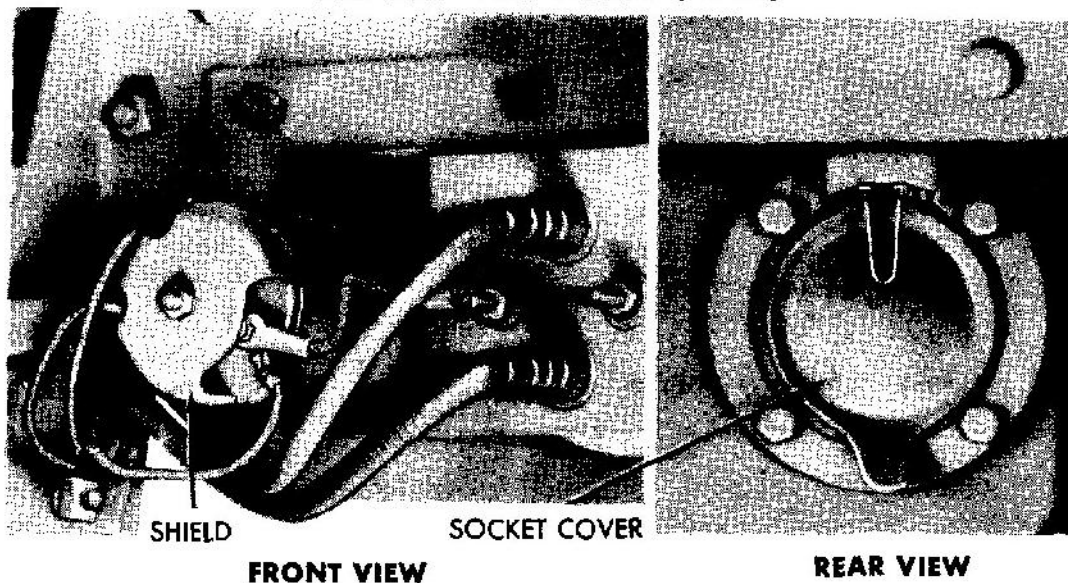

Figure 46 - Trailer Light Socket
f. **Trailer Light Socket.** The trailer light socket and wiring for the trailer tail and stop lights is shown in figure 46. To remove the socket, remove the nut which secures the shield to the socket body and remove the shield (fig. 46). Disconnect the four wires from the socket body, noting wire color and size. Remove the four bolts which secure the socket body to the bracket. Remove the socket. To install, reverse the sequence of the steps of the removal procedure.